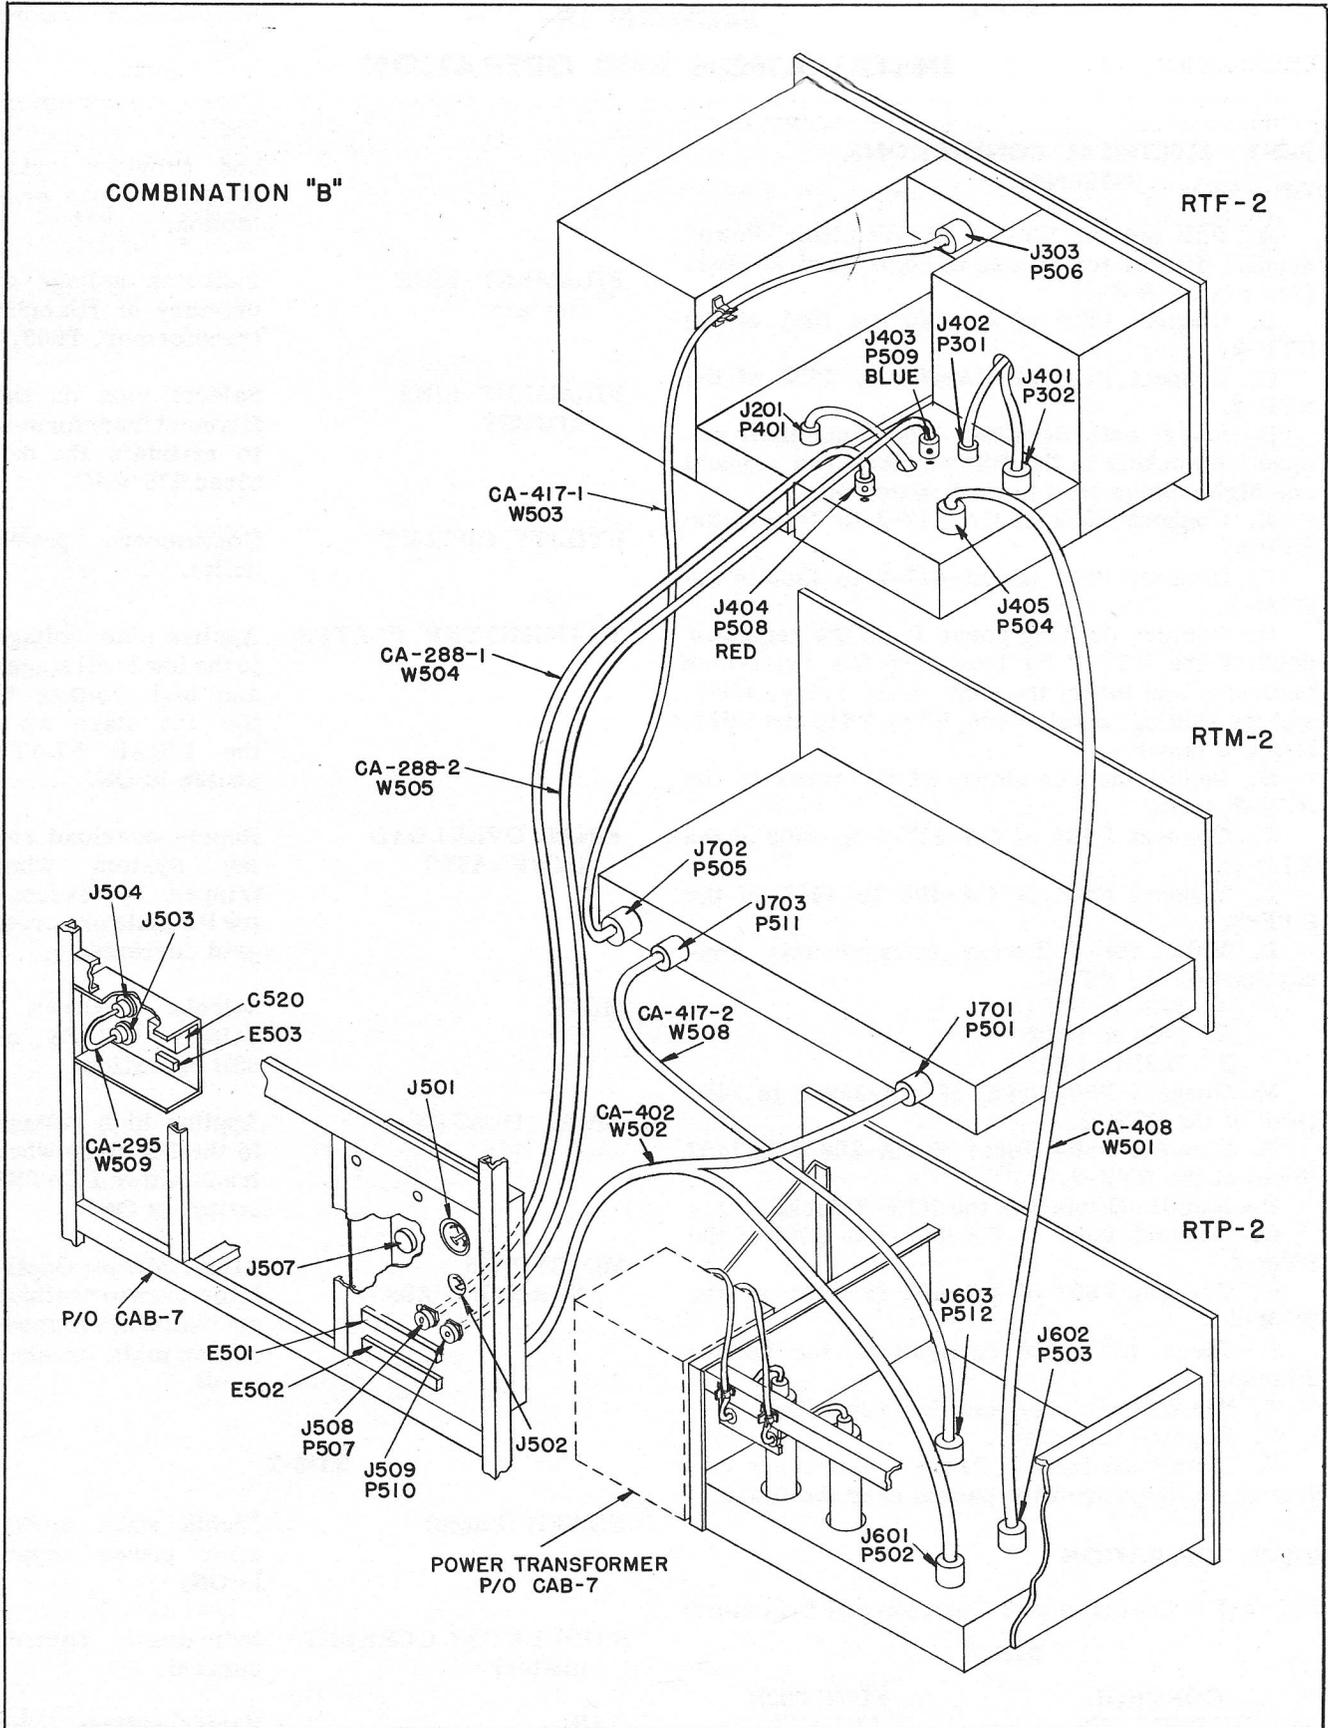

Figure B-3-1 Cabling Diagram Model GPT-750B2
A. Pull out the RTP-2 (Transmitter Power Supply) drawer for access to connectors at rear. (See Figure B-3-1)